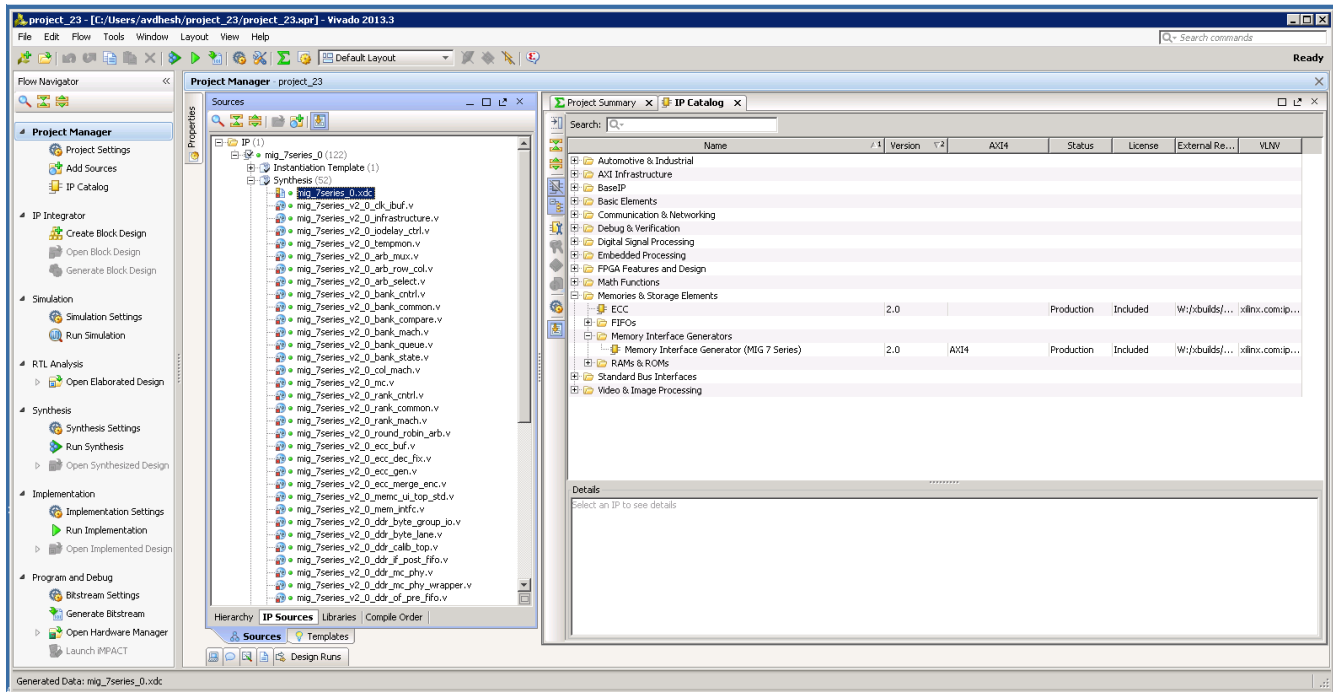

Figure 1-35: Vivado Project – RTL and Constraints Files
- All user-design RTL files and constraints files (XDC files) can be viewed in the **Sources > Libraries** tab (Figure 1-35).